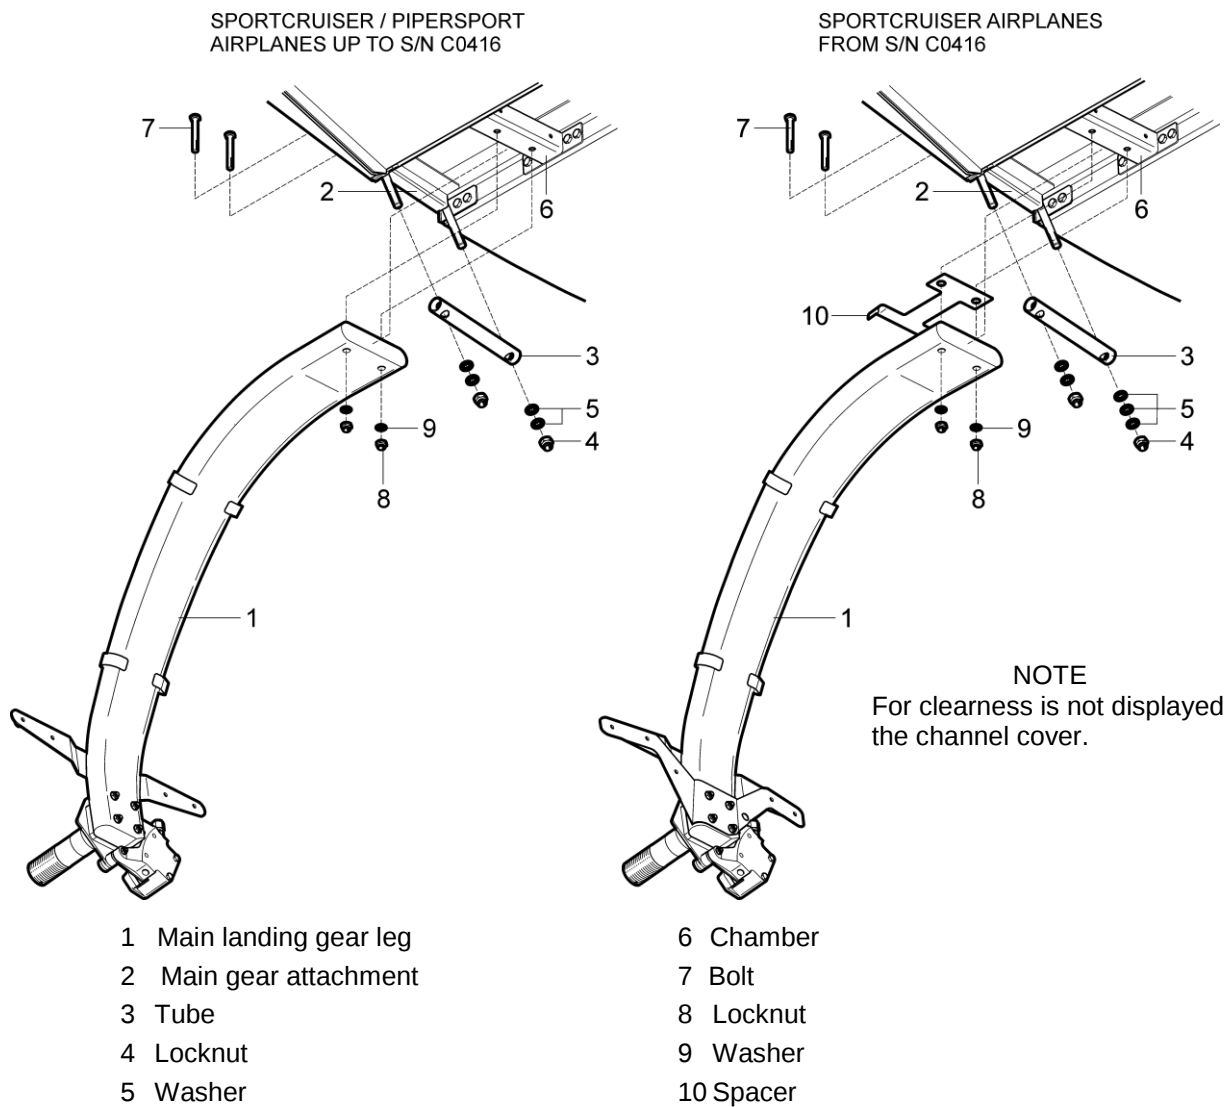

Fig. 8-10: Main landing gear leg removal / installation
- (d) Unscrew the nuts (8, Fig. 8-10), and remove the washers (9) and bolts (7).
- (e) Unscrew the nuts (4), and remove the washers (5) and tube (3); remove the spacer (10) (if used).
- (f) Remove the landing gear leg (1) from the chamber (6) and put it on a suitable place.
- (a) Check outer surface of the composite landing gear leg (1, Fig. 8-10) for occurrence of cracks and whether the axle connection is not damaged before installing the landing gear leg.